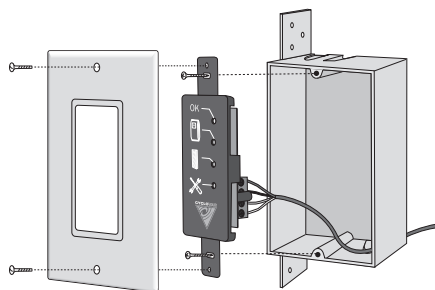

figure 14
5. Screw the electronic module to the mounting box, with the two screws provided (**figure 14**).